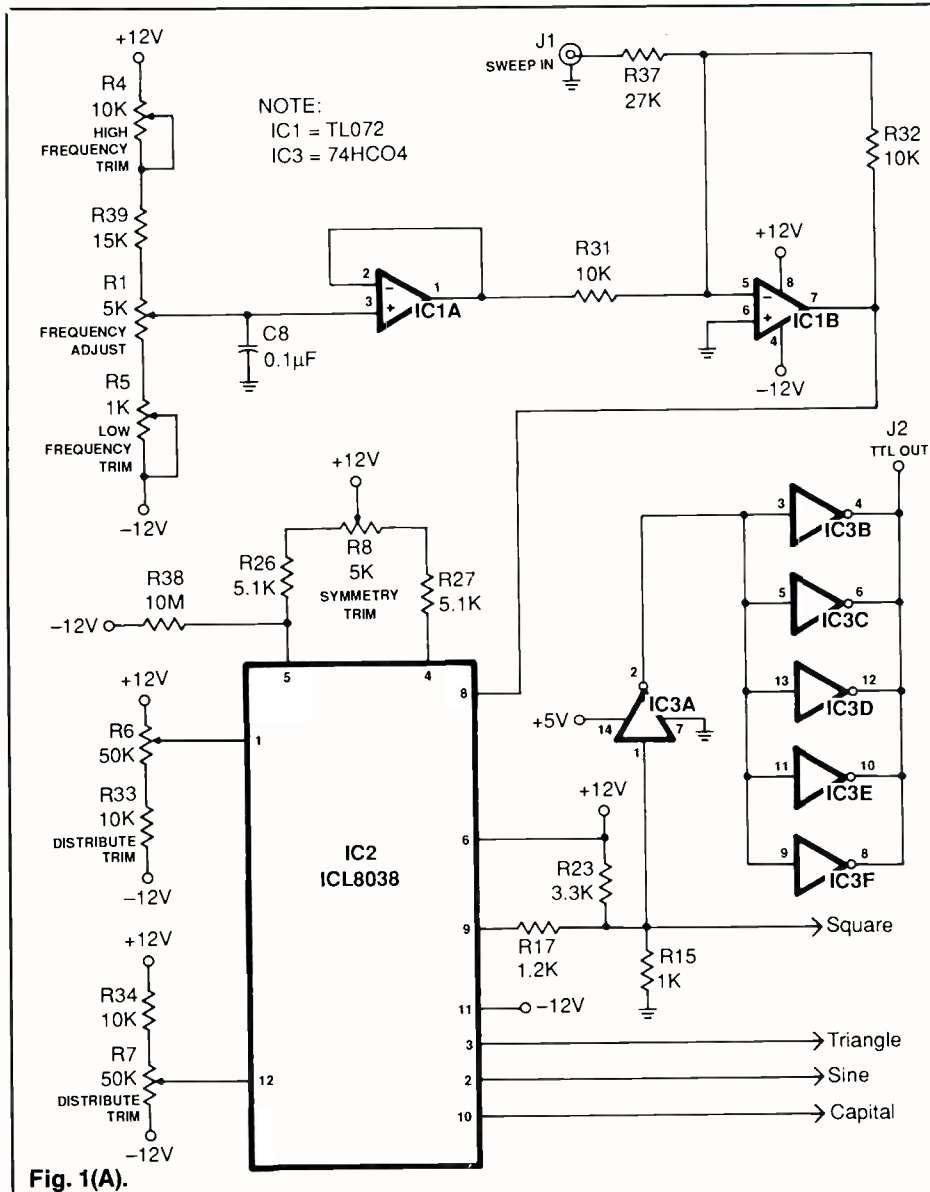

Fig. 1. Complete schematic diagram of Function Generator is shown here in four parts, labeled (A) through (D).
The heart of the Generator is a precision waveform generator/voltage-controlled oscillator chip that Digi-Key, among others, sells for less than \$5. This is the ICL8038 shown as *IC2* in Fig. 1(A). This particular chip has been around for a number of years and is the foundation upon which
Any varying voltage applied to pin 2 of *IC2* through *J1* within the range of ± 12 volts produces frequency modulation (FM) of the output waveform at FINAL OUTPUT jack *J3* in Fig. 3(C). If no external sweep is used, output frequency is set via FREQ. ADJ control *R1* in Fig. 1(A).
Frequency range is selected via *S2* in Fig. 1(B). As the FREQUENCY RANGE SELECT switch is moved through its positions, it selects different values of capacitance. As the selected capacitance decreases, the RC time constant internal to *IC2* also decreases. This results in an increase in output frequency from the chip. Capacitance values for the *S2* circuit range from 417 μF to less than 100 pF to provide a frequency bandwidth at the output of *IC2* ranging from less than 1 Hz to beyond 250 kHz, with some overlap between ranges.